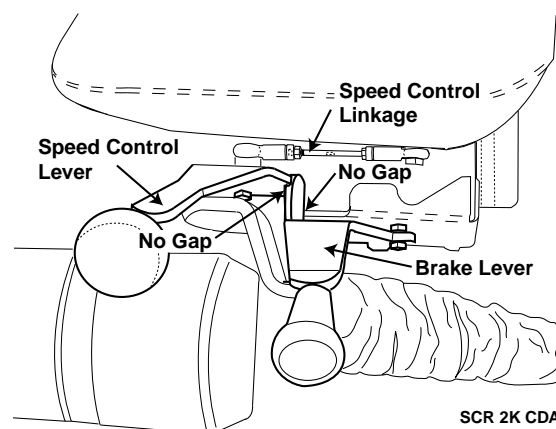

Figure 6-4 Speed Control Lever
4. Adjust the speed control lever turnbuckle until the speed control lever contacts the park brake lever and tighten the jam nuts. (See Figure 6-4).
6. Loosen jam nuts C and D (See Figure 6-5) on the right side. Slowly rotate the control rod until the right drive wheel starts to creep forward. When the wheel starts to creep forward, stop the movement and turn the control rod back until the wheel starts to creep in reverse. When the wheel starts to creep in reverse, stop the movement and turn the control rod to the center point between forward and reverse motion (Figure 6-4) and tighten the jam nuts.